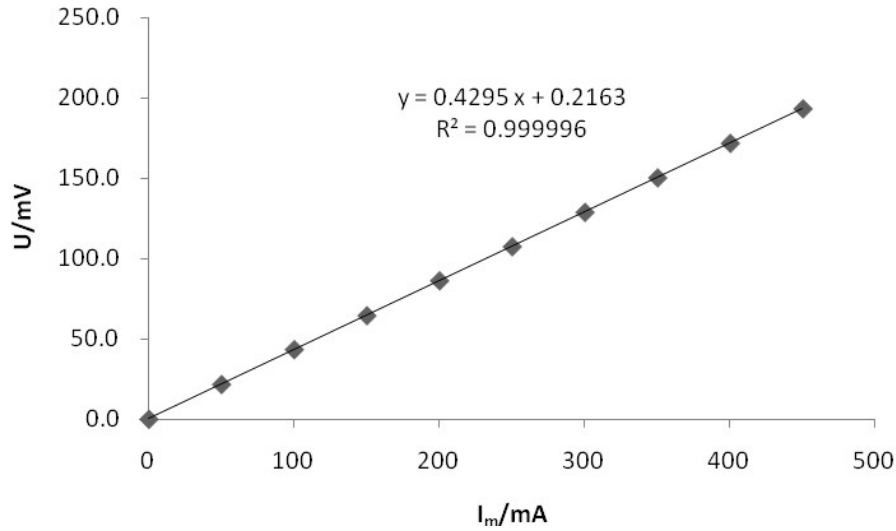

Figure 4 Plot of Hall potential difference U versus solenoid current I_m
Place the Hall sensor at the central position of the solenoid (i.e. $X = 16$ cm). The measured U and I_m are given in Table 1 and plotted in Figure 4 below.
- 1) Study on Hall effect: using the least square method we got $K = \Delta U / \Delta I_m = 0.4295 \text{ V/A}$ and correlation coefficient $r = 0.999958$. Since the magnetic induction strength B in solenoid is proportional to the applied current, Hall potential difference U is proportional to magnetic field strength B as demonstrated in Figure 4.